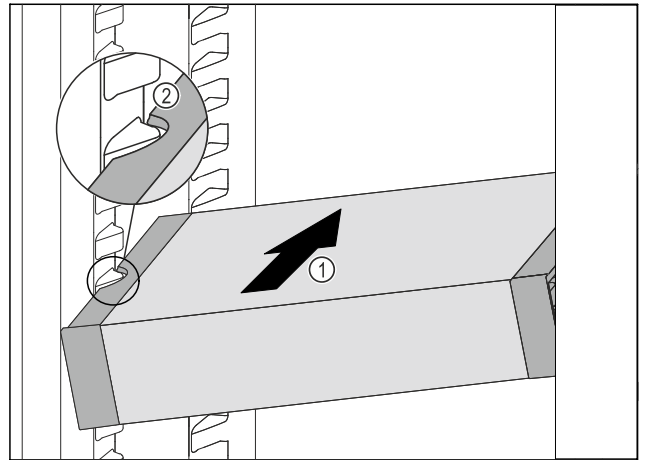

Fig. 53
- ▶ Insert the VarioSafe into the refrigerator compartment at an angle Fig. 53 (1) until the recesses in the side Fig. 53 (2) of the VarioSafe are at the level of the support rib in the refrigerator compartment.